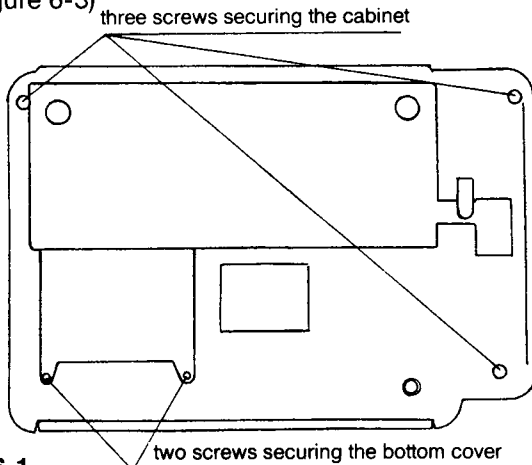

FIGURE 6-1
(1) Removal of the cabinet
- Turn over the machine and remove three screws securing the cabinet. (See figure 6-1)
(2) Removal of the transmission mechanical unit
- Remove two screws securing the bottom cover. (See figure 6-1)